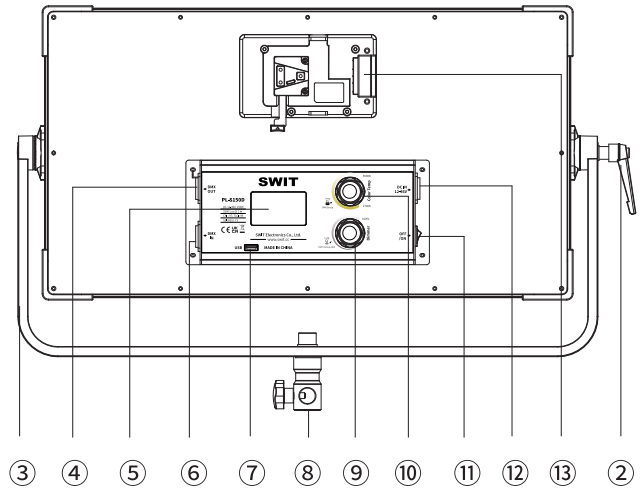
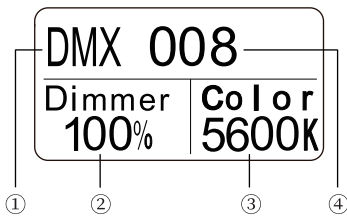
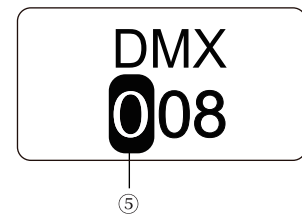
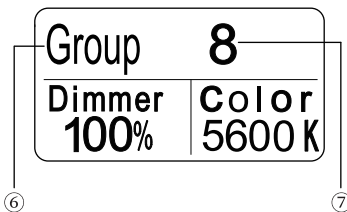

Fig.4 PL-S150D Back View
Fig.5 DMX Mode
Fig.7 DMX Address setting Interface
Fig.8 Group Mode
Rotate Dimmer/Color knob (Fig.4 ⑨/⑩) to adjust the intensity and color temperature,the setting range are below:
Long press Color adjustment knob (Fig.4 ⑩) to change the light to DMX communication mode (See Fig.5), long press Dimmer adjustment knob (Fig.4 ⑨) to enter into DMX address setting interface (See Fig.7) for DMX address setting:
The black shading (Figure 7 ⑤) indicates that the current bit is selected. Turn the Dimmer adjustment knob (Figure 4 ⑨) to set the current bit, press the Dimmer adjustment knob (Figure 4 ⑨) to set the current bit and go to the next bit. When the last bit is set,Press the Dimmer adjustment knob (Figure 4 ⑨) or wait for about 5s after stopping the operation to exit the setting of the communication address.
Press the Color adjustment knob (As shown in FIG. 4 ⑩) to make the current communication mode of the lamp set to Group communication mode (as shown in FIG. 8), and pass Dimmer Enter the Group address setting interface (as shown in Figure 10) and turn the Dimmer adjustment knob to set the Group address. Press the Dimmer adjustment knob (As shown in Figure 4 ⑨) or stop the operation and wait for about 5 seconds to exit the communication address setting.
USB port (Figure 4 ⑦) is a reserved port, please use according to the specified environment of the company's related products, can not be used for other purposes, in order to avoid losses.